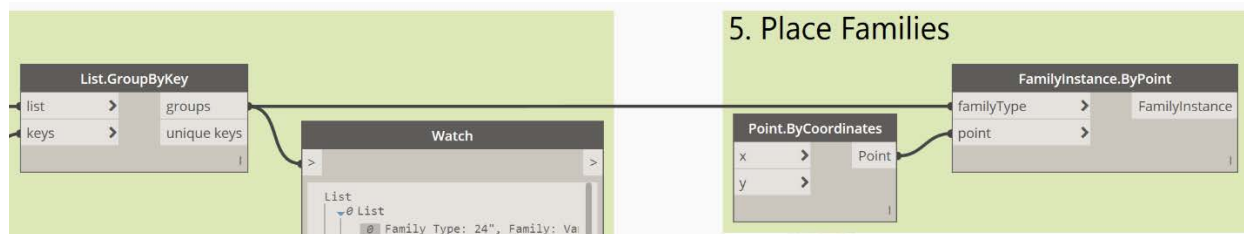

Figure 48
21. Wire the **groups** output into the **familyType** input of **FamilyInstance.ByPoint** node (see Figure 48).